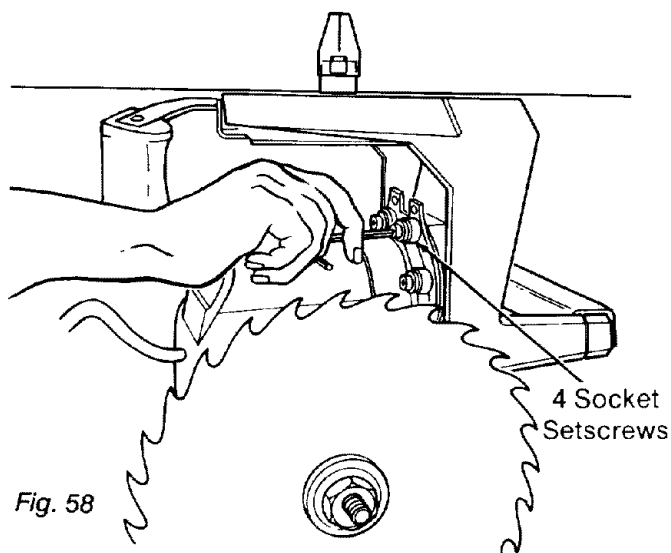

Fig. 58
9. Loosen the four screws behind the *yoke* using a 1/8 inch hex-L wrench. (Figure 58)